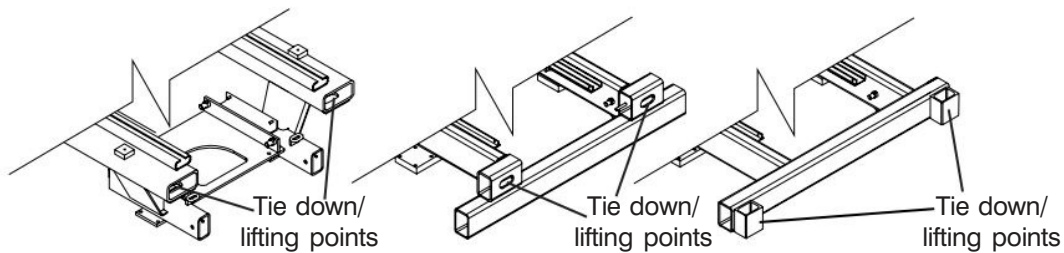

Figure 2-22. Tie Downs/Lifting Points
- The lifting/rigging may be attached to all four lifting points as illustrated in Figure 2-22.
When transporting, the aerial platform must be secured to the truck or trailer deck. Tie downs are available as illustrated in Figure 2-22.